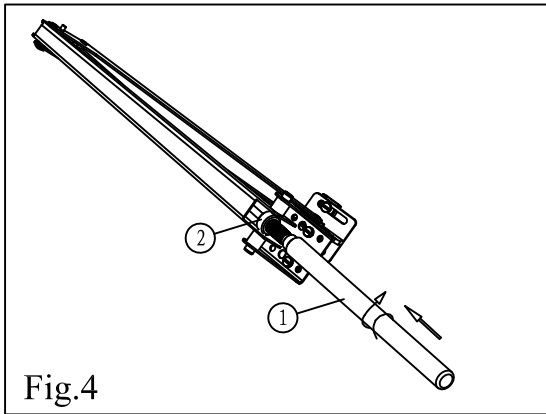

Fig.4
3. Fix the cylinder (1) to the cylinder housing (2). See fig. 4.